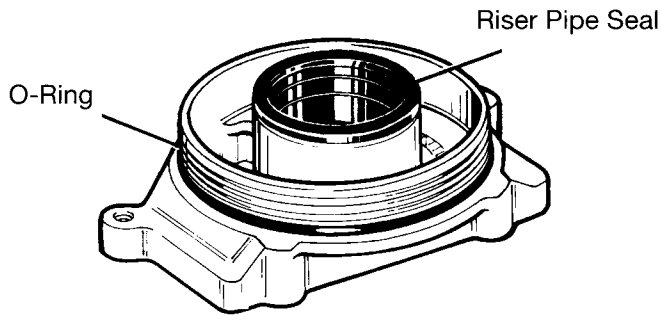
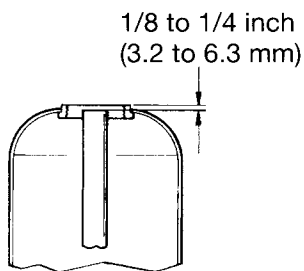

Figure 2
Figure 3A
3. Apply o-ring lubricant (silicone oil or silicone grease only) to the riser pipe seal located in the port of the tank adapter that accepts the riser pipe, the bevel on top of the tank, and the top 1 inch (25 mm) of the riser pipe. Reference Figure 2.
4. Install the tank adapter o-ring onto the tank adapter. Reference Figure 2. Make sure the riser pipe is 1/8 to 1/4 inch (3.2 to 6.3 mm) below the top of the tank. Reference Figure 3A.